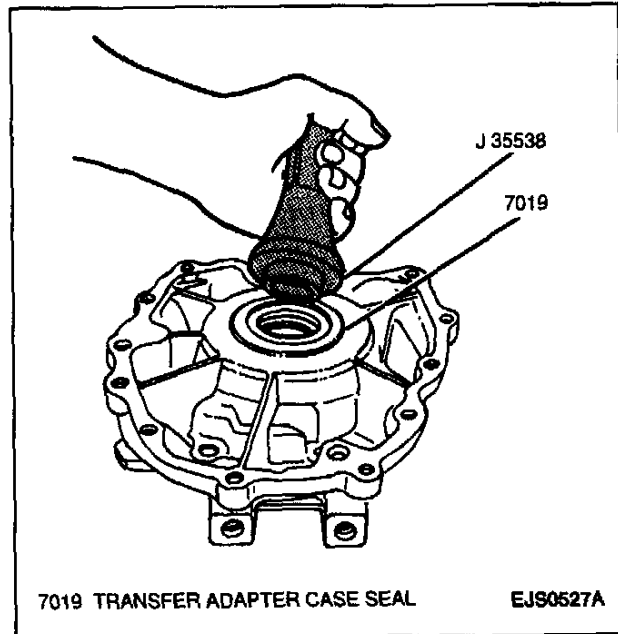

Figure 61—Installing New Transfer Adaptor Case Seal
2. New transfer adapter case seal into the transfer adapter case using a J 35538 (Figure 61).